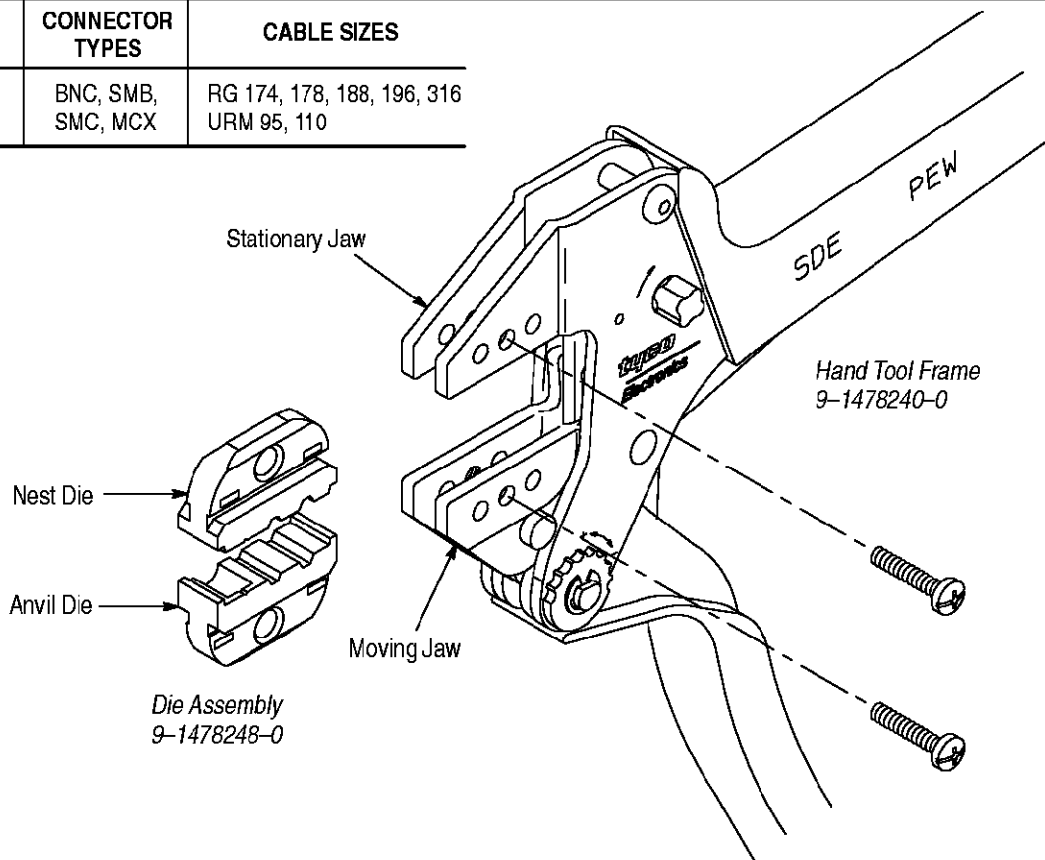

Figure 1
This instruction sheet covers the use and maintenance of GREENPAR Crimping Die 9-1478248-0 (in their various configurations – denoted by the dash number following the base part number), used in Hand Tool Frame 9-1478240-0. The die crimps plug connectors onto coaxial cable. See Figure 1 for a list of the connector types and cable sizes the die set can crimp.
2. DESCRIPTION (Figure 1)
2. See Figure 1 for normal orientation of the dies. Insert the dies inside the tool jaws and align the retaining screw holes.
- Change hand tool frame part number 1583203-1 to 9-1478240-0 in Figure 1 and Section 1, INTRODUCTION